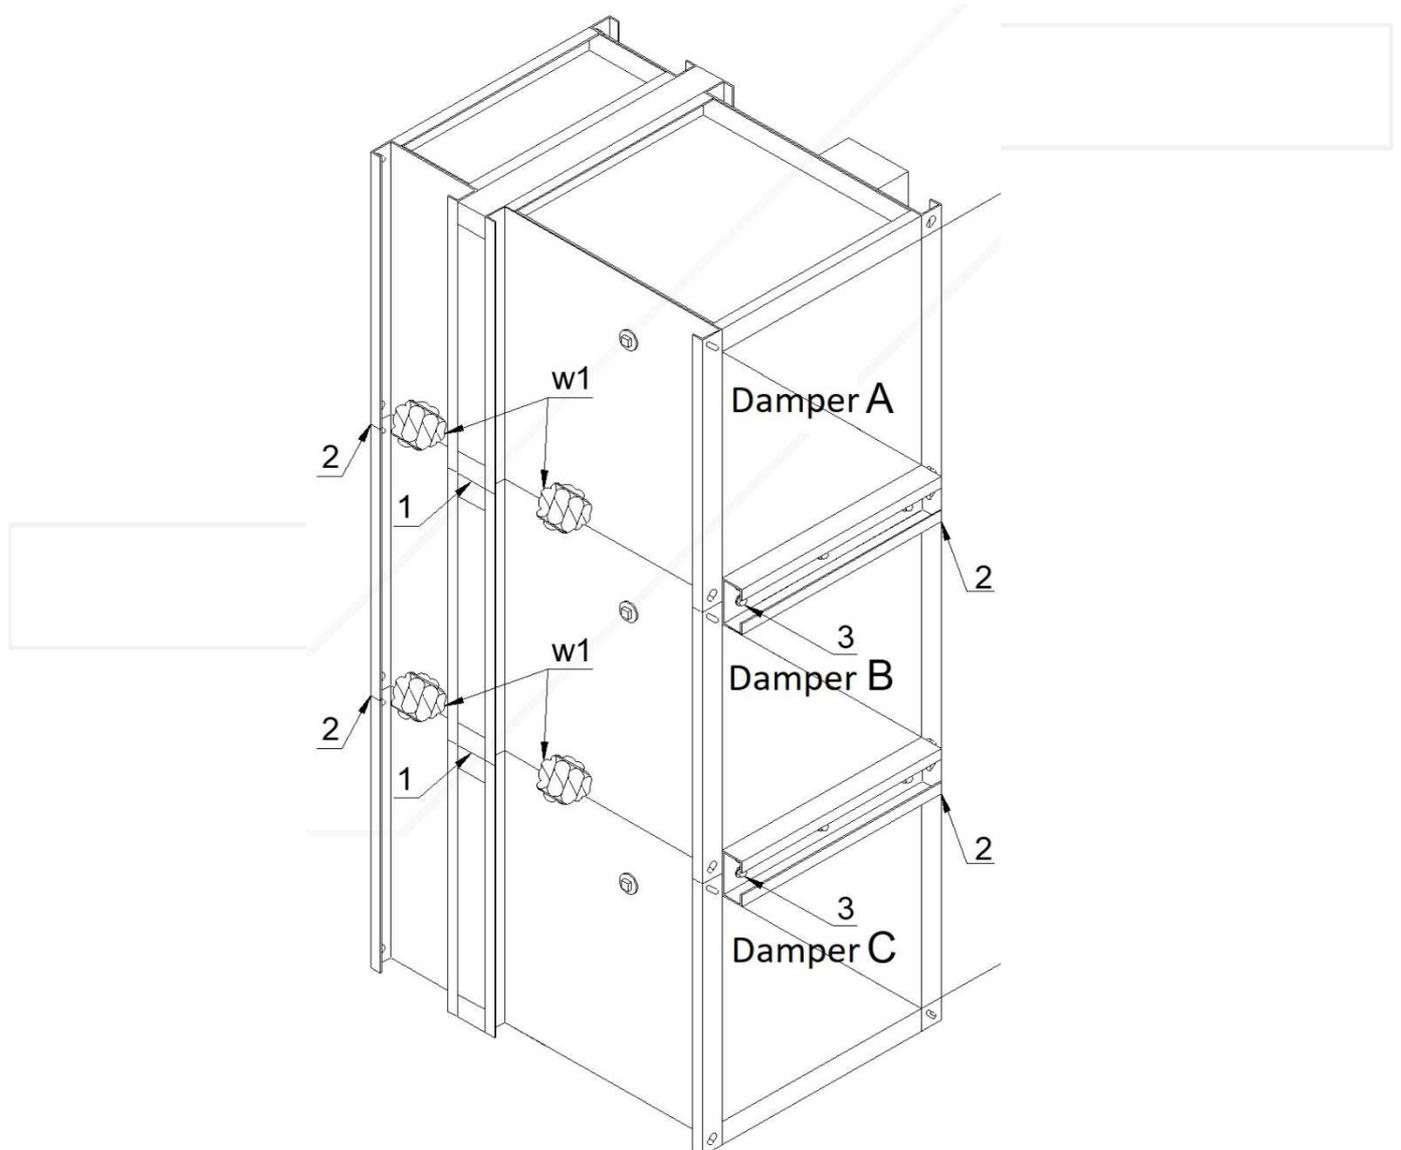

Figure 13. Arrangement 2 - vertical battery consisting of three fire dampers KWP
**Arrangement 2** - vertical battery consisting of three fire dampers KWP (Figure 13)
- a. Fix the gasket on insulating spacer of one of adjoining fire dampers (position (1) in the Figure 13).
- c. Place the fire damper B on the fire damper C and assemble them together on the front and back with use of perforated assembly strips (2) and self-tapping screws M6x10 (3), which should be tightened into the openings in fire damper body. In order to carry out the correct assembly, 4 self-tapping screws should be used per each assembly strip with length of 1200 [mm].